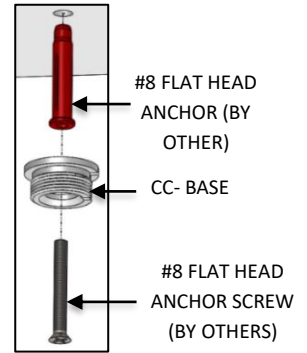

FIG. 9- HARD CEILING
4. Install the CC-BASE to the #8 FLAT HEAD ANCHOR (by others) previously installed at the non-powered mounting location and secure with the #8 FLAT HEAD ANCHOR SCREW (by others) as shown in FIG. 9.